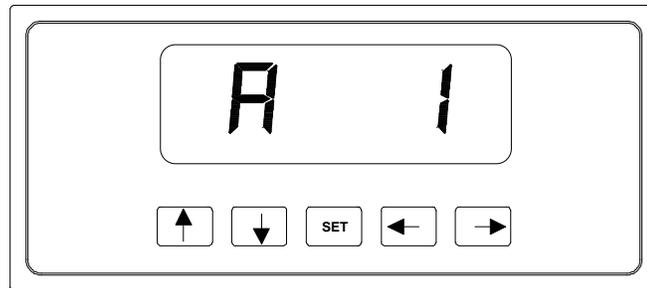
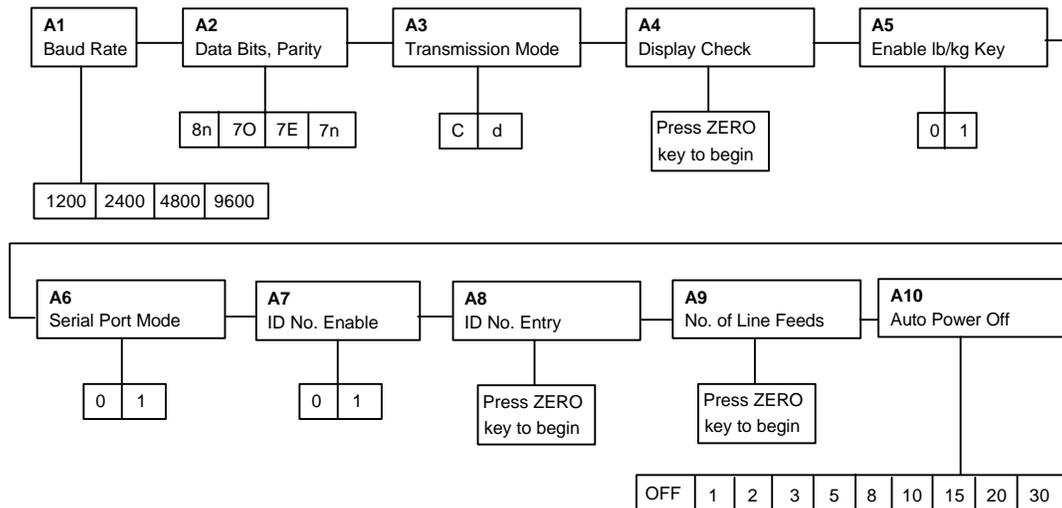

Figure 3-3: User Menu Key Assignments
Figure 3-4: User Menu Chart
2. Use the right or left directional keys shown in Figure 3-3 to move right or left in the Setup ("F") menu until the indicator shows " A 1".
Use the directional keys shown in Figure 3-3 to move around in the User Menu Chart shown in Figure 3-4 on the following page.